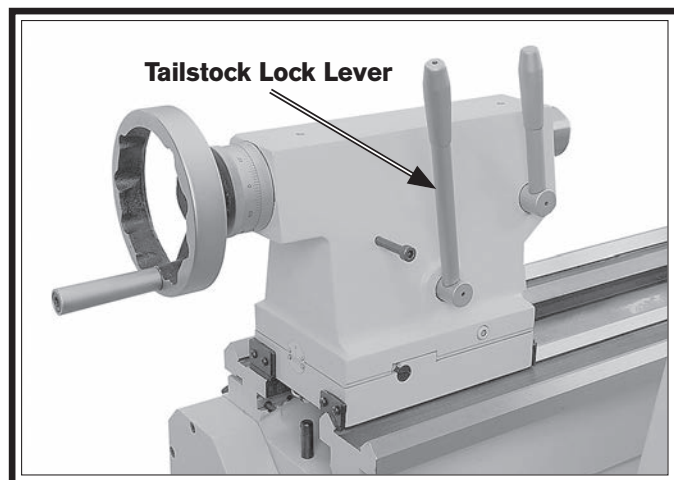

Figure 16. Tailstock lock lever.
3. To prepare for lifting the lathe, balance the load by loosening the tailstock lock lever (see **Figure 16**) and moving the tailstock to the end of the bedway. Be sure to lock it in place.